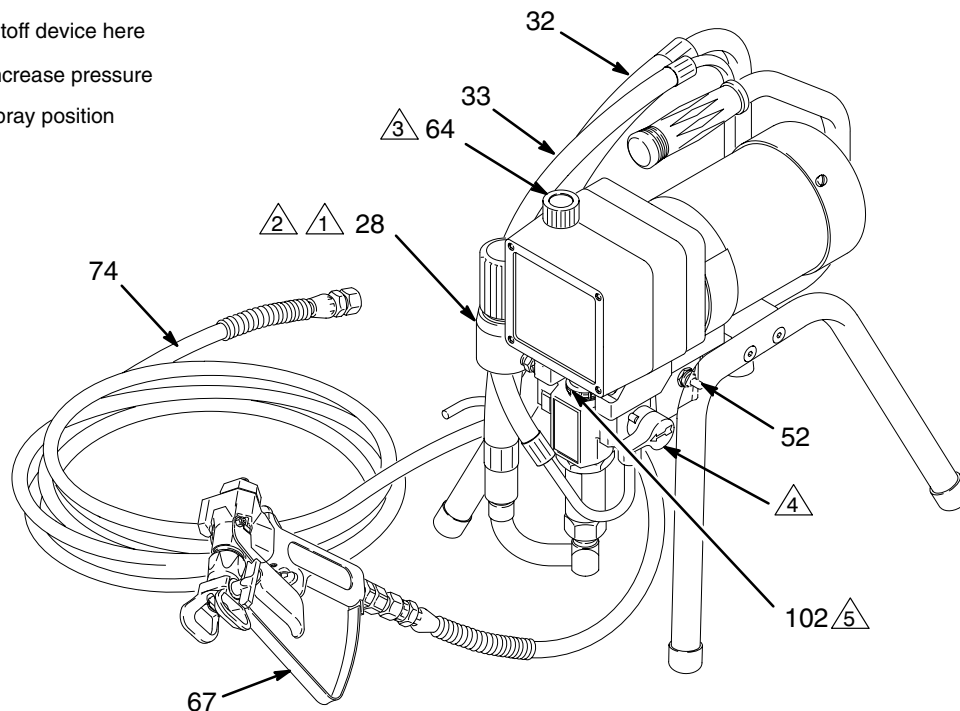

Fig. 2
3. Never install any shutoff device between the filter and the hose. See Fig. 2.
**NOTE:** Refer to Fig. 2 and the other figures referenced in the text as you start the sprayer.